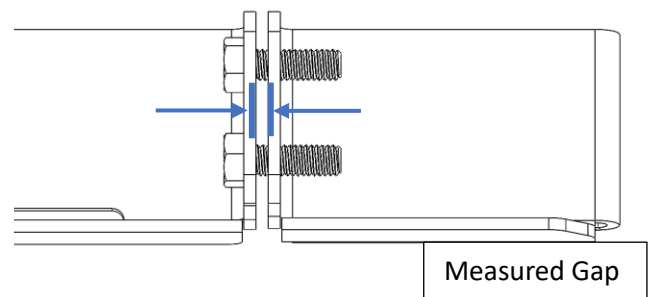
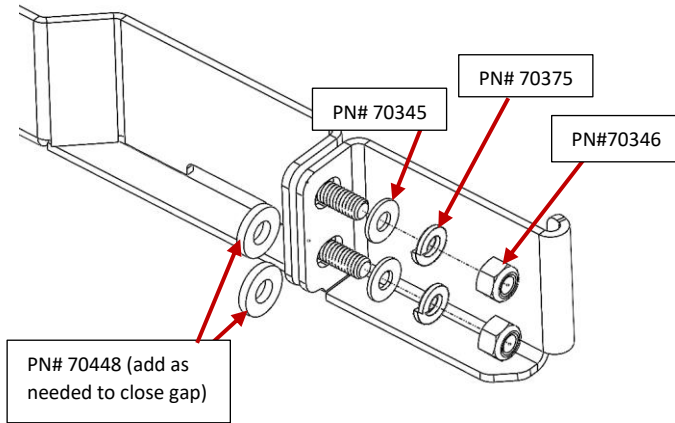

Figure 2: Tension Bar Gap
Figure 3: Tension Bar Bracket Hardware
- (2) 5/16" Nuts [PN 70346], and two (2) 5/16" split washer [PN 70375] (Figure 2 and Figure 3).